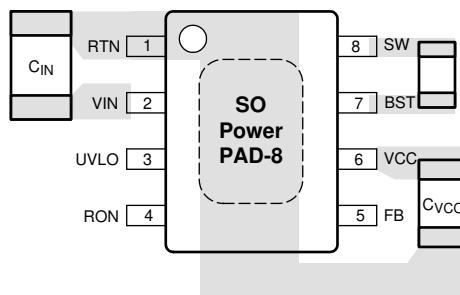

图 10-1. Placement of Bypass Capacitors
1. C_{IN} : The loop consisting of input capacitor (C_{IN}), V_{IN} pin, and RTN pin carries switching currents. Therefore, the input capacitor must be placed close to the IC, directly across V_{IN} and RTN pins and the connections to these two pins should be direct to minimize the loop area. In general it is not possible to accommodate all of input capacitance near the IC. A good practice is to use a 0.1- μ F or 0.47- μ F capacitor directly across the V_{IN} and RTN pins close to the IC, and the remaining bulk capacitor as close as possible (see 图 10-1).
2. C_{VCC} and C_{BST} : The V_{CC} and bootstrap (BST) bypass capacitors supply switching currents to the high-side and low-side gate drivers. These two capacitors must also be placed as close to the IC as possible, and the connecting trace length and loop area should be minimized (see 图 10-1).